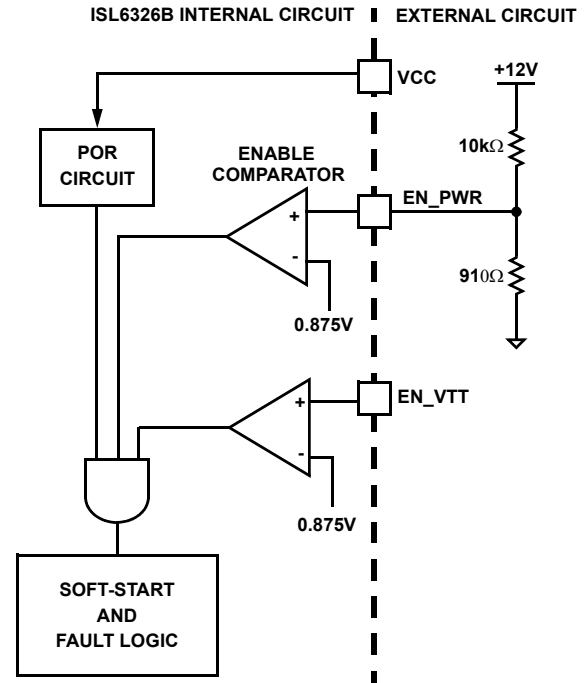

FIGURE 7. POWER SEQUENCING USING THRESHOLD-SENSITIVE ENABLE (EN) FUNCTION
2. The ISL6326B features an enable input (EN_PWR) for power sequencing between the controller bias voltage and another voltage rail. The enable comparator holds the ISL6326B in shutdown until the voltage at EN_PWR rises above 0.875V. The enable comparator has about 130mV of hysteresis to prevent bounce. It is important that the driver ICs reach their POR level before the ISL6326B becomes enabled. The schematic in Figure 7 demonstrates sequencing the ISL6326B with the ISL66xx family of Intersil MOSFET drivers, which require 12V bias.